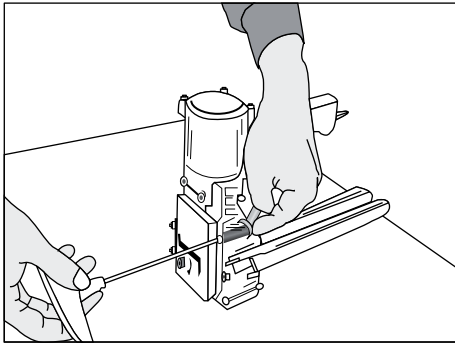

Figure 21
1. Loosen the screws and nut with a 8 mm spanner wrench and a 4 mm Allen wrench. (See Figure 21)